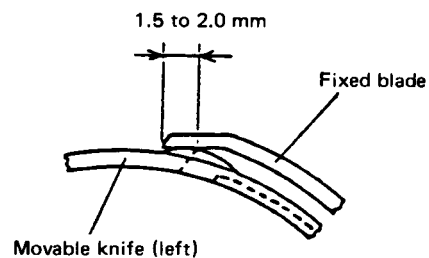

Fig. 13
- ① Set the solenoid to the operation state and rotate the sewing machine. Then, the movable knife (left) is rotated by the thread trimmer cam. When the movable knife (left) has moved to the maximum, the standard engagement amount is 1.5 to 2.0 mm. See Fig. 13.